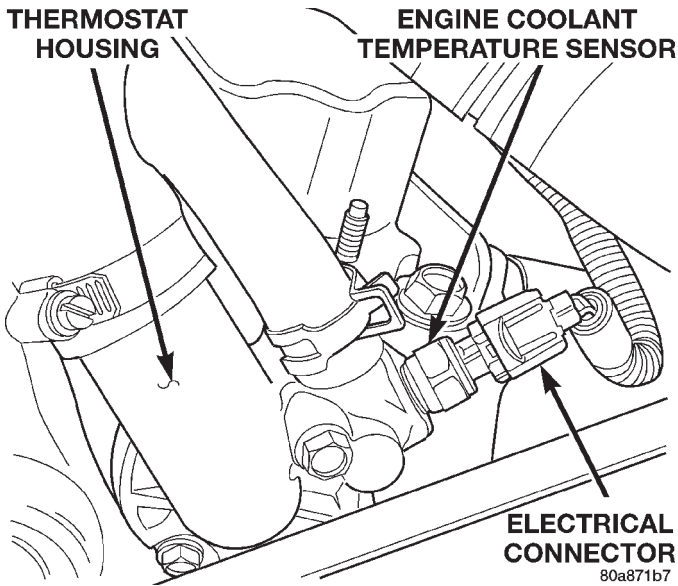

Fig. 12 ECT Sensor Location—4.0L Engine
(18) 4.0L Engine: Verify wire harness connector is firmly connected to Engine Coolant Temperature (ECT) sensor (Fig. 12).